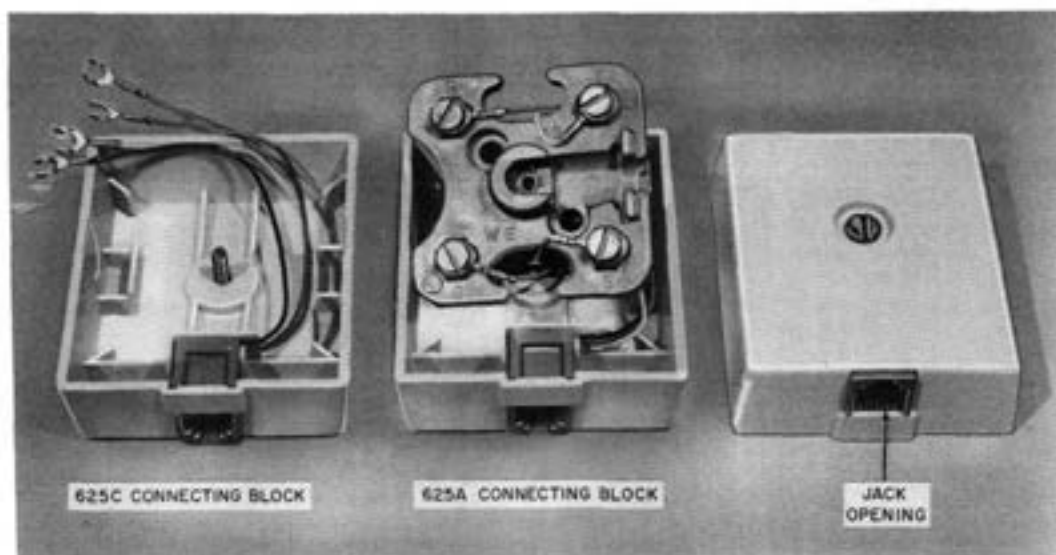

Fig. 1—625A- and 625C-Type Connecting Blocks
- Block, Connecting, 625A (Fig. 1)
2.03 The **625A** connecting block (Fig. 1) is intended for new installations and is surface mounted. It contains a 42A connecting block ♦with four screw terminals and♦ is used to terminate inside wire and spade-tipped leads from the jack in the cover. This connecting block replaces the 42A connecting block and the 549A jack. When mounting the 42A connecting block, leave at least 1/16-inch clearance between the bottom of the cover and the molding, carpet, or floor. ♦The 625A connecting block is available in olive gray (-49) and ivory (-50).♦
(a) **Surface-type:** Jack-opening on the bottom is shown in Fig. 1. Narrow baseboards will require mounting connecting block opening to left or right side and should be avoided whenever pos-